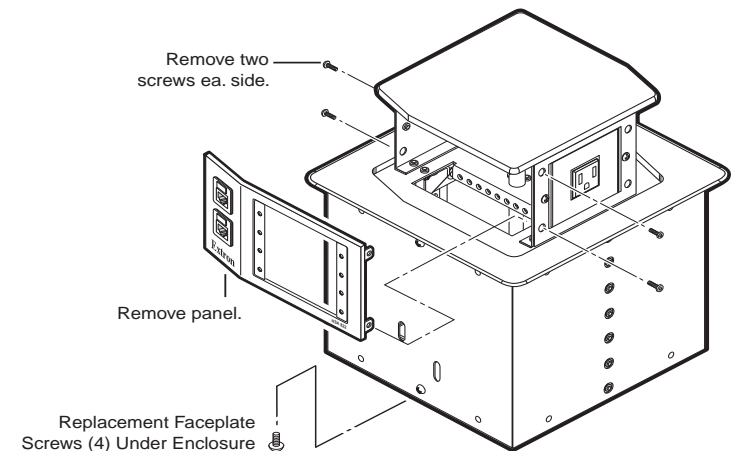

Figure 2-4 — Removing the AAP/RJ-45 panels
- Remove the top and bottom screws on the right and left sides of the AAP/RJ-45 panel (figure 2-4). Retain the screws. Lift the panel away from the enclosure as far as the connected cables allow and then allow the panel to dangle, supported by its connected cables.